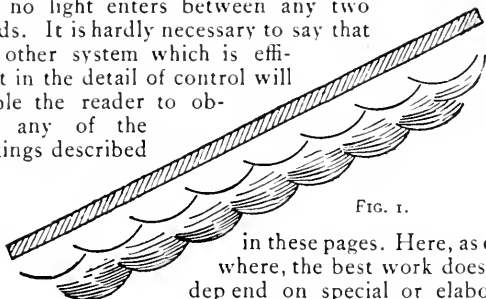

FIG. 1.
**The Writer's System** As will be seen in Fig. 1, my blinds consist of two sets of flexible curtains: black next to the light and a white set underneath. These blinds are suspended on parallel